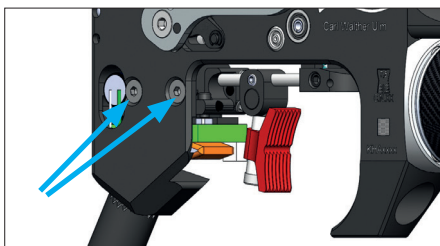

Fig. 6
2. Turn the mounting screws into the frame, allowing them to make light contact (Fig. 6).
3. Then tighten both of them securely (approx. 1.4 Nm) (Fig. 6).